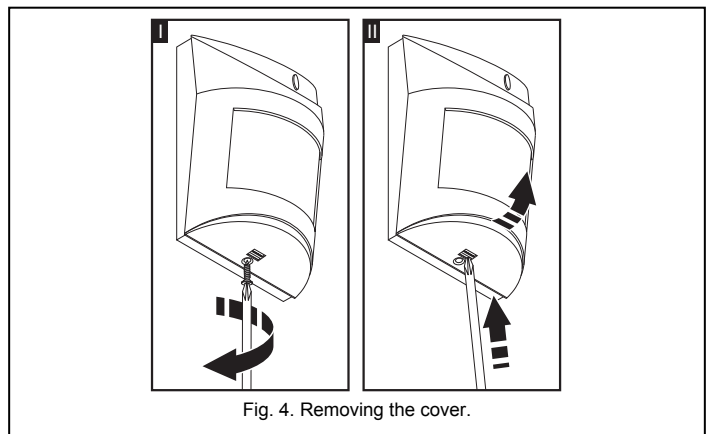

Fig. 4. Removing the cover.
1. Open the housing as shown on Fig. 4.